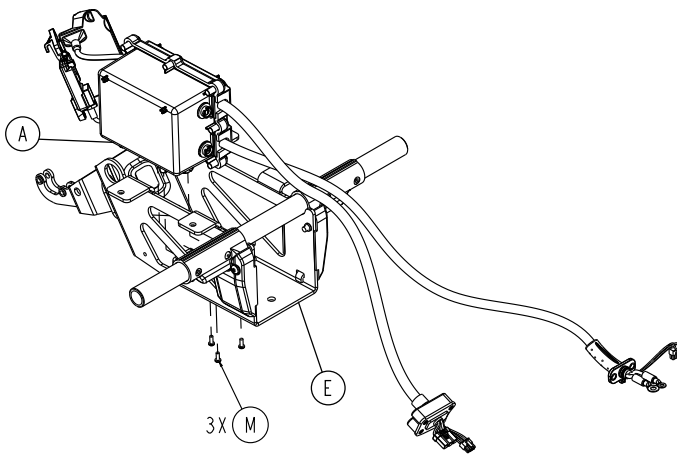

Figure 81 – Remove the HBC enclosure assembly screws
24. Using a T25 Torx driver, remove the three pan head tapping screws (M) that secure the HBC enclosure assembly (A) to the bird cage (E) (Figure 81). Save the screws.